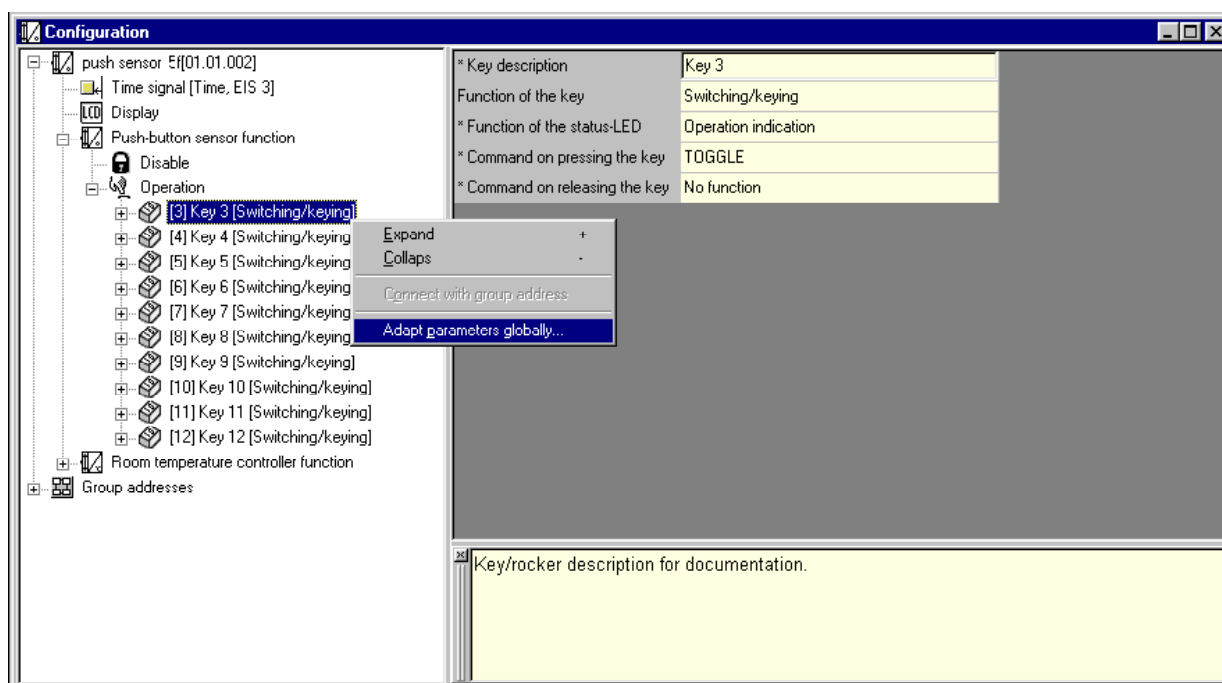

Fig. 3: Activating global adaptation of parameters in the selected branch by means of the context menu
3. In the context menu (click on right mouse button), the command *"Adapt parameters globally"* must be selected (see fig. 3). This command is only available if the parameter branch has global parameters.